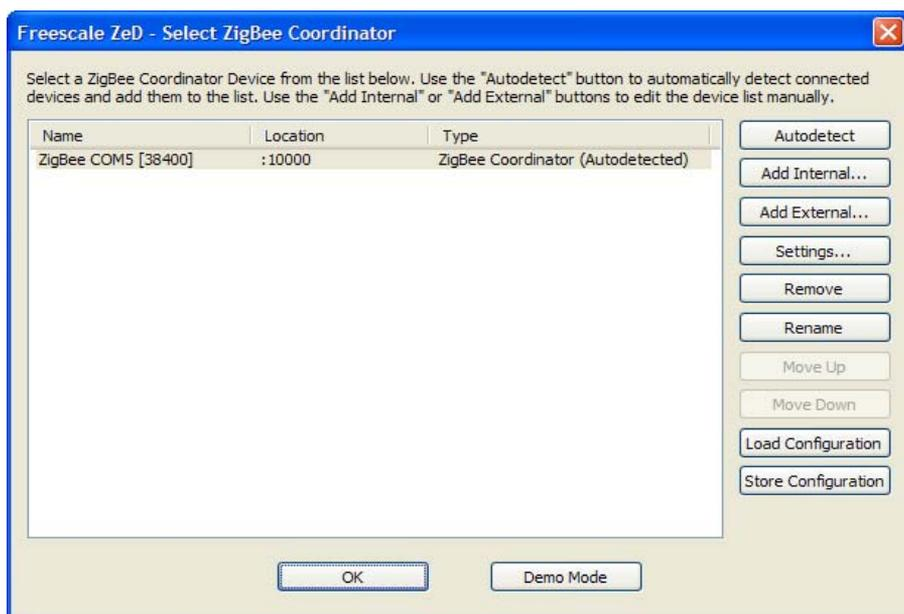

Figure 7. ZigBee Coordinator Selection Window
- If the ESP board is detected, the board port is displayed in the list as having the type “ZigBee Coordinator (Autodetected)” as shown in the Coordinator Selection window (Figure 7).